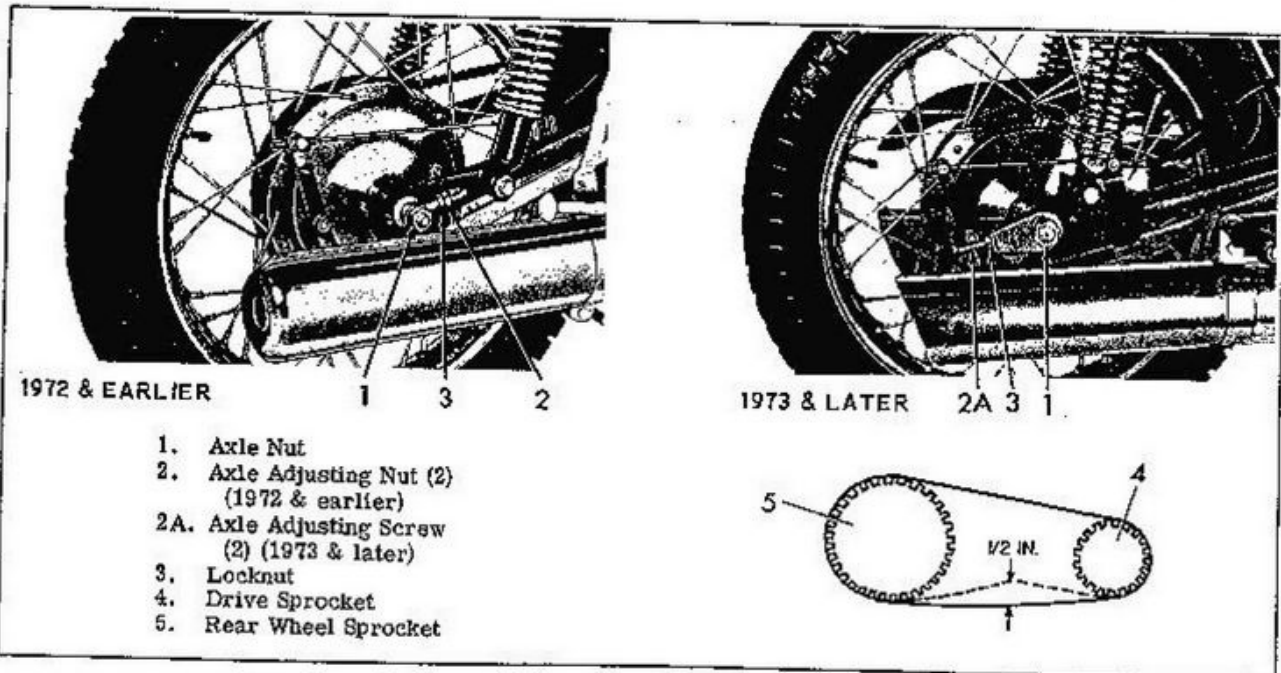

Figure 2B-10. Drive Chain
To adjust rear chain, loosen axle nut (1, 2B-10) on each side of the wheel. Loosen locknut (3) and alternately turn adjusting nut (2) or adjusting screw (2A) on each side of the wheel until 1/2" free up and down chain movement is obtained between the drive sprocket (4) and rear wheel sprocket (5) as shown in Figure 2B-10. Chain adjustment must be made with rear wheel on the ground and two persons on the saddle to allow for full travel of the rear fork. Both axles must be adjusted exactly the same in order to maintain the proper wheel and chain alignment. The tire must run centrally in the rear fork and the chain must line up with the rear wheel sprocket. Readjust as necessary or uneven wear of the chain or tire will result. Retighten axle nut securely.